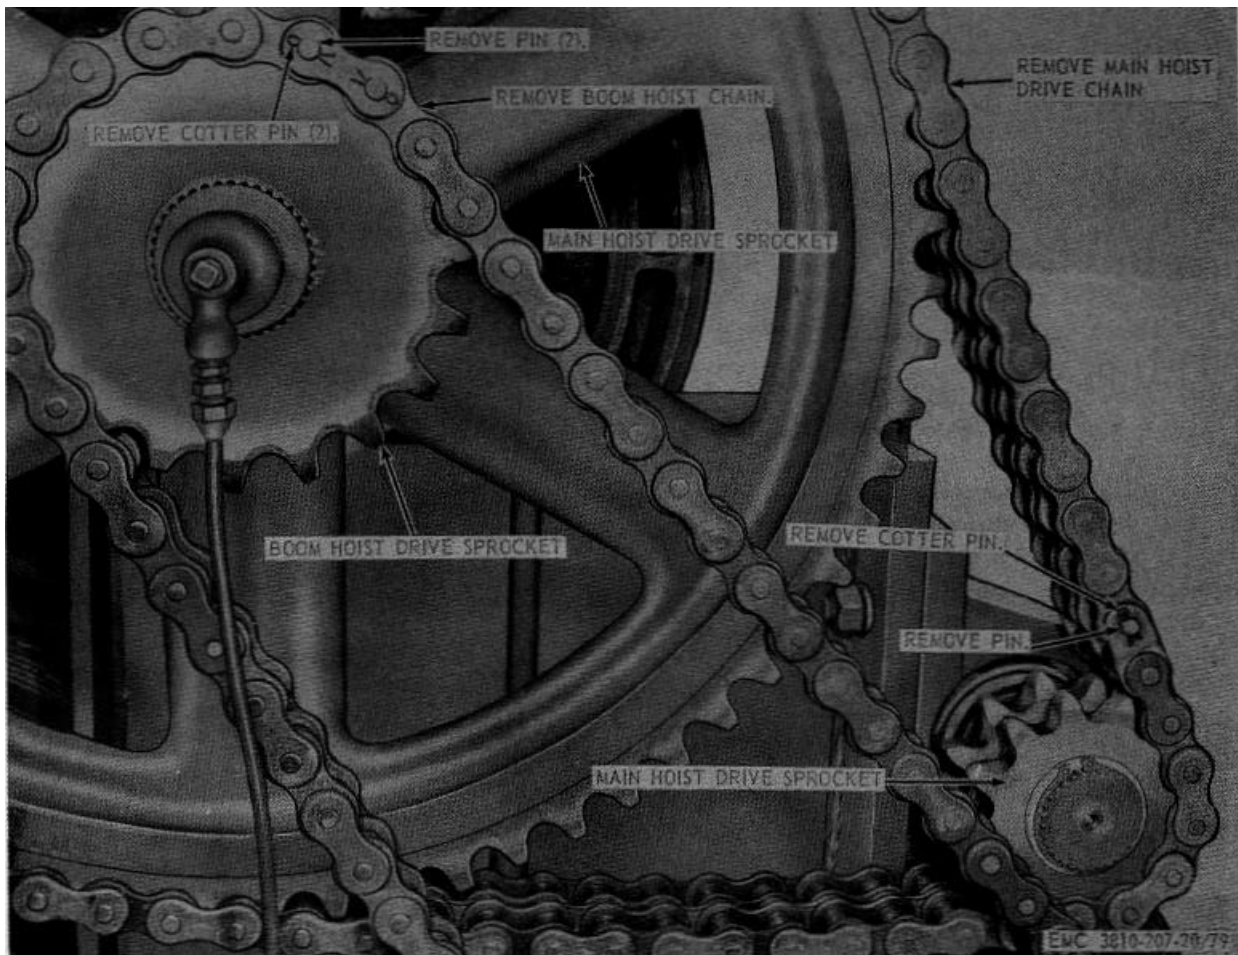

Figure 79. Main hoist and boom hoist drive chains, removal and installation.
- (1) Remove the main drum drive chain guard (par. 152).
- (2) Remove the main hoist and boom hoist drum chains as instructed on figure 79.
- (1) Install the main hoist and boom hoist drum chains as illustrated on figure 79.